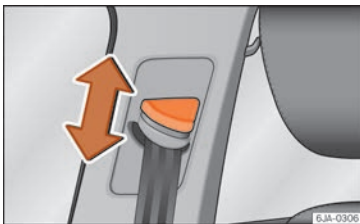

Fig. 81 Location of the belt height adjuster.
- Press the upper part of the shoulder belt guide and hold it in this position »» **Fig. 81**.